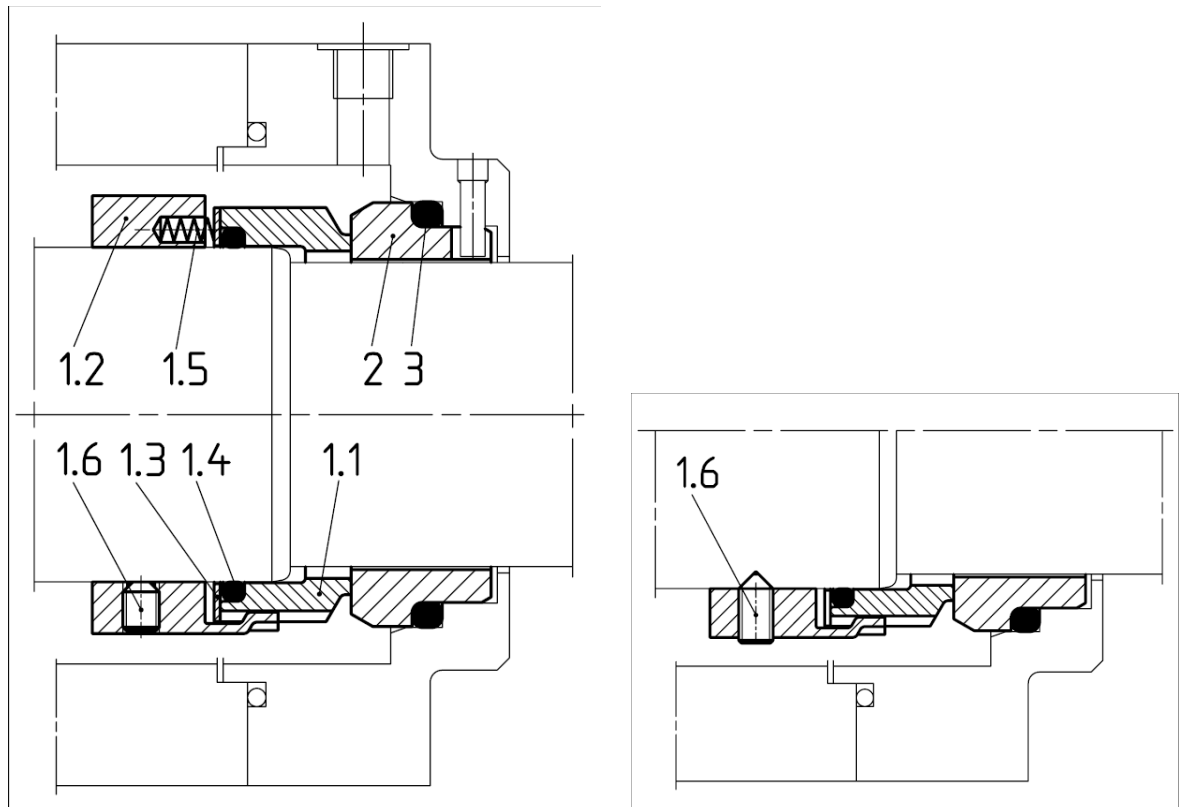

Fig. 1
In the following description all figures in parentheses, e.g. (2) define the respective part item no. in fig. 1. The part item no. may vary from those stated on the corresponding assembly drawing.
- stationary seat (2)
- $dw \geq 100 \text{ mm}$  by means of set screws with cone point (1.6) (refer Fig. 1)